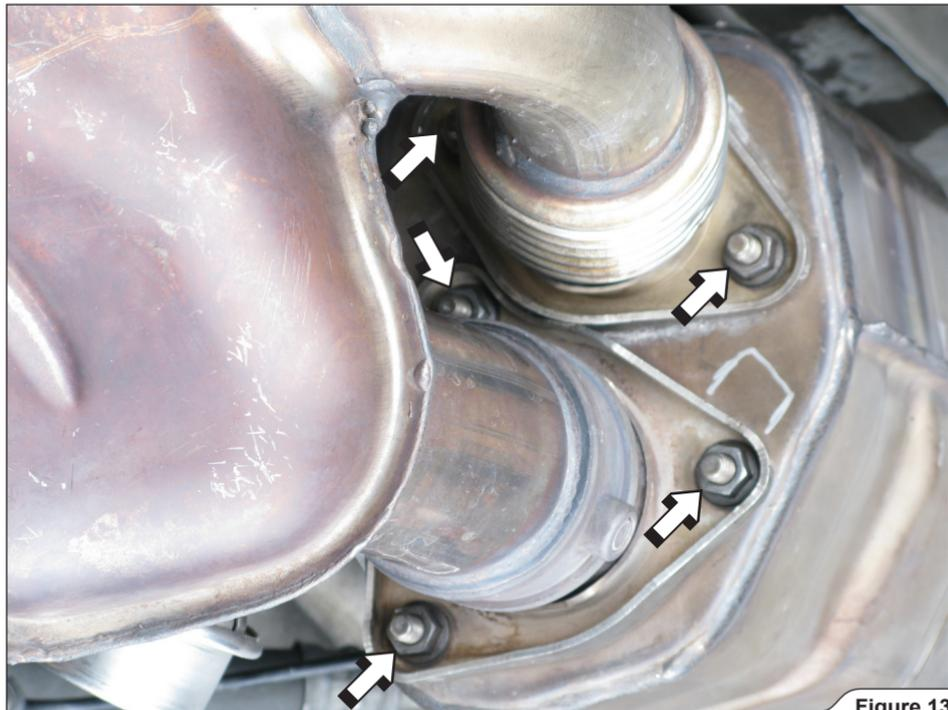

Figure 13
7. For Slip-On, Sports Cup, Evolution, Evolution-Race and SlipOn-Race: unscrew the marked nuts of the flanges, undo the vacuum tubes of the exhaust valves on both sides of the vehicle and remove the side mufflers (Figure 13, 14, 15).